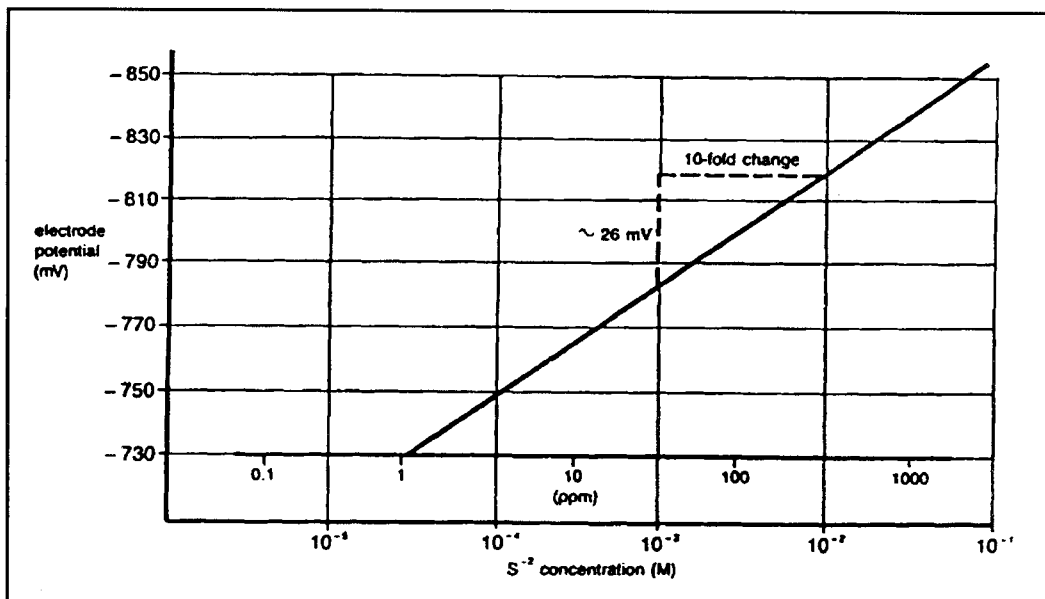

Figure 2. Typical Sulfide Electrode Calibration Curve
5. Using the semi-logarithmic graph paper, plot the mV reading (linear axis) against concentration (log axis). A typical calibration curve can be found in Figure 2.
7. On semi-logarithmic graph paper, plot the millivolt reading (linear axis) against the concentration (log axis) as in Figure 2.